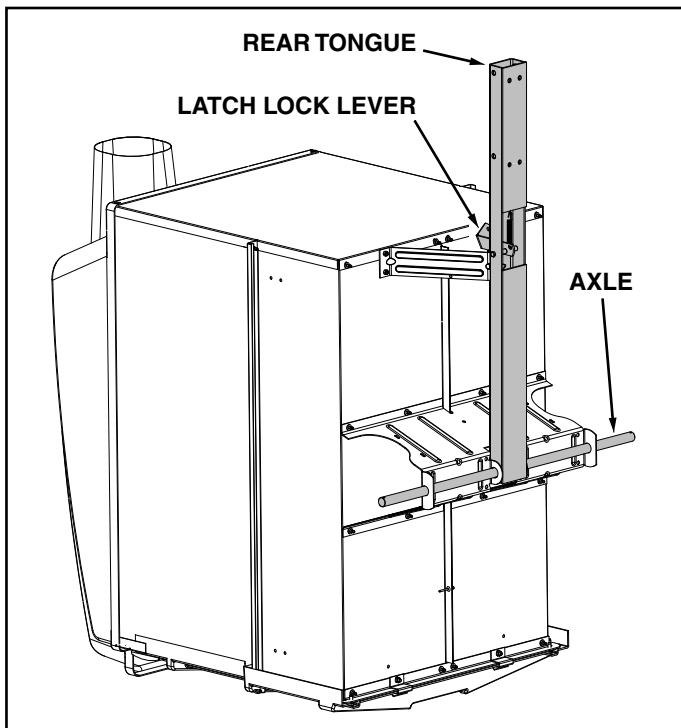

FIGURE 1
1. Tip the cart back to rest upright on the rear of the cart. See figure 1.
2. Install the rear tongue and the axle onto the cart body, sliding the axle through the wheel support and the tongue. Lock the tongue to the latch stand bracket with the latch lock lever. See figure 1.